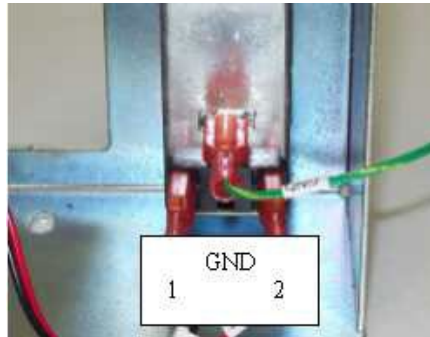

Figure 2 - Power Switch Interface Harness Wiring to Switch
3. Connect the red wire connectors on the replacement harness to the back of the power input switch as shown in Figure 2 above. The labeling of the leads should be identical to the text in the above picture.